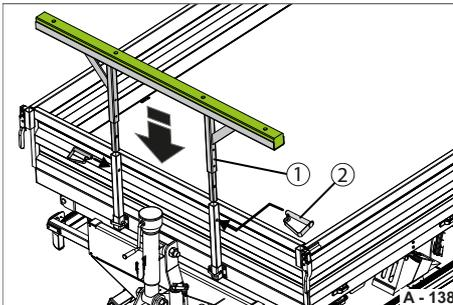

Fig. 144 Installing support frame
- ▶ Insert the support frame mount (Fig. 144/1) into the posts (Fig. 143/2).
- ▶ Insert the spring cotter stud (Fig. 144/2) through the bore holes in the posts.